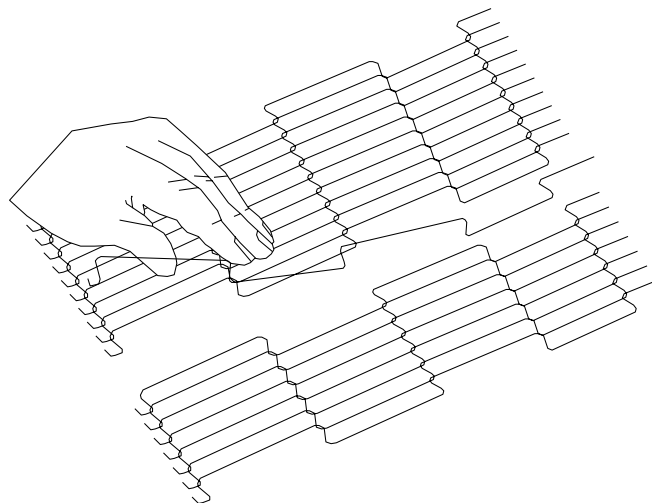

**Figure 4-26.**
3. Remove the outside master links on the right and left sides of the conveyor belt as shown in Figure 4-26.